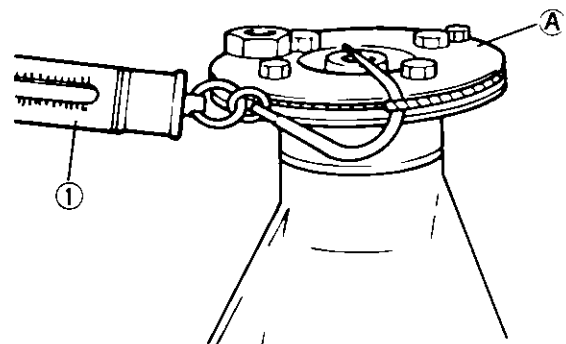

Fig. 16-23 ① Spring balance
The bevel pinion, as installed in normal manner in carrier, is required to offer a certain torque resistance when checked by using prescribed preload adjuster (special tool A) as shown in Fig. 16-23. This resistance is a "preload,"
- Adjust preload on side bearing during back-lash adjustment: mount special tool on drive bevel pinion as shown in Fig. 16-23 and measure using spring balance ①. If reading at the instant bevel gear starts moving is within the range given below, side bearing preload is acceptable. Referring to the graph, for example, when the drive bevel pinion bearing preload measured as shown in Fig. 16-23 is 2.6 kg (5.73 lb), drive bevel pinion bearing preload (kg) + bevel gear side bearing preload (kg) should be 2.8 – 3.2 kg (6.17 – 7.05 lb).